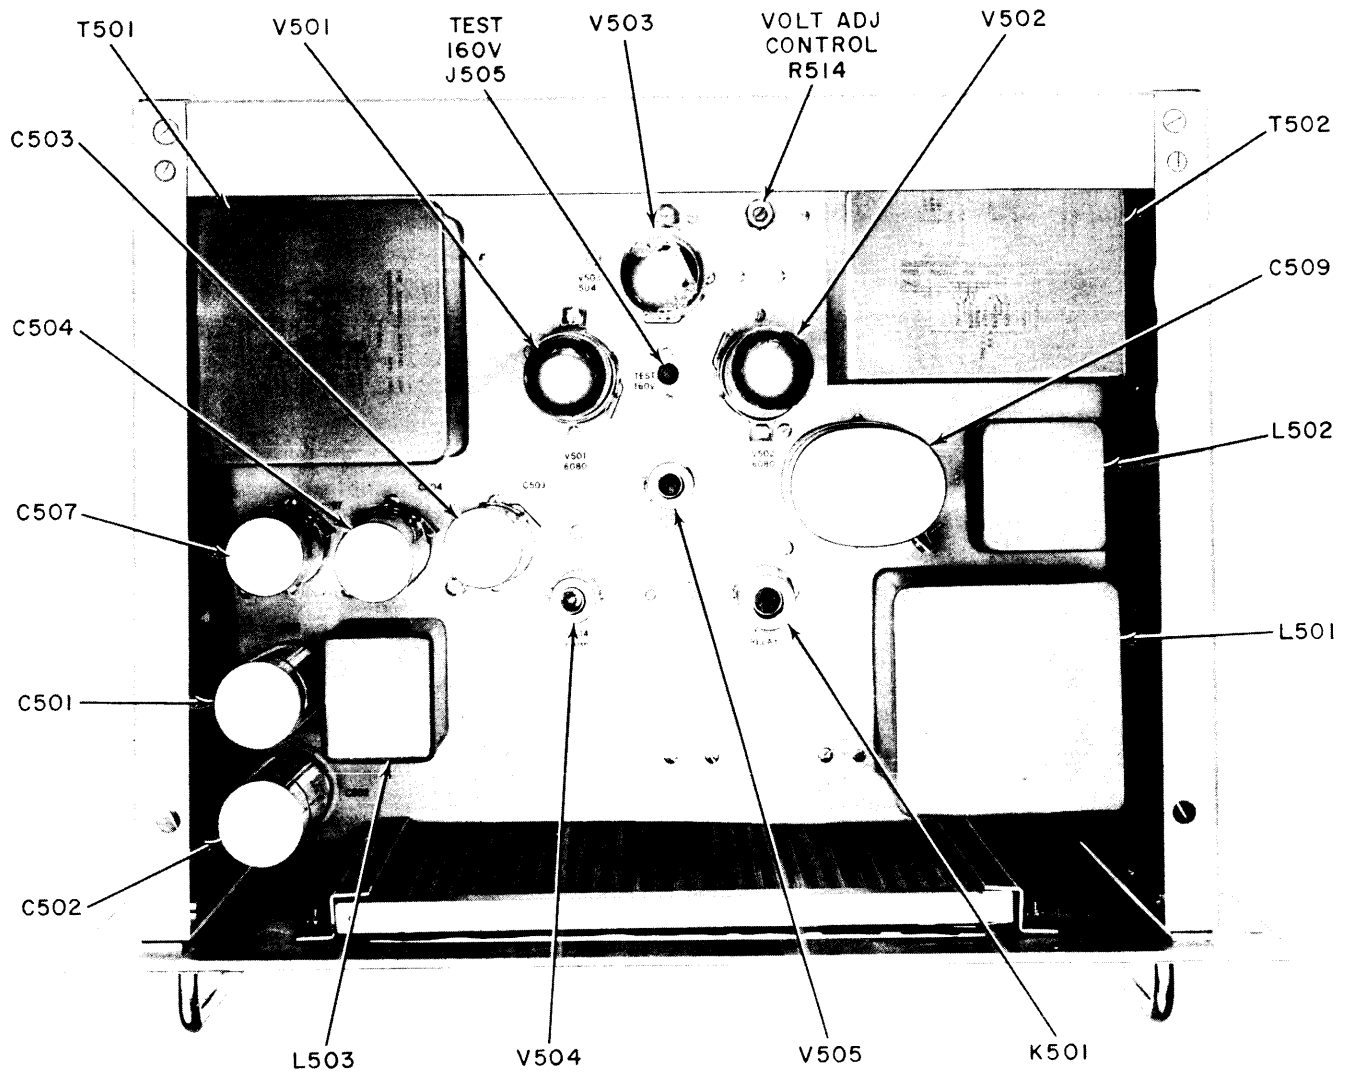

Figure 5-1. CPP-2 Power Supply, Top View
b. REPLACEMENT OF COMPONENTS. Replacement of any of the components requires a readjustment of the VOLT ADJ control R514. (Refer to paragraph 5-5.) To check the a-c ripple content of the various output operating voltages, refer to paragraph 5-6. When replacing CR503 or CR504 (part number 1N2512), a long-nosed pliers or similar tool must be used to hold the lead wire being soldered in order to transfer heat away from the junction diode. See figures 5-1 and 5-2 for component location when replacing a defective part.